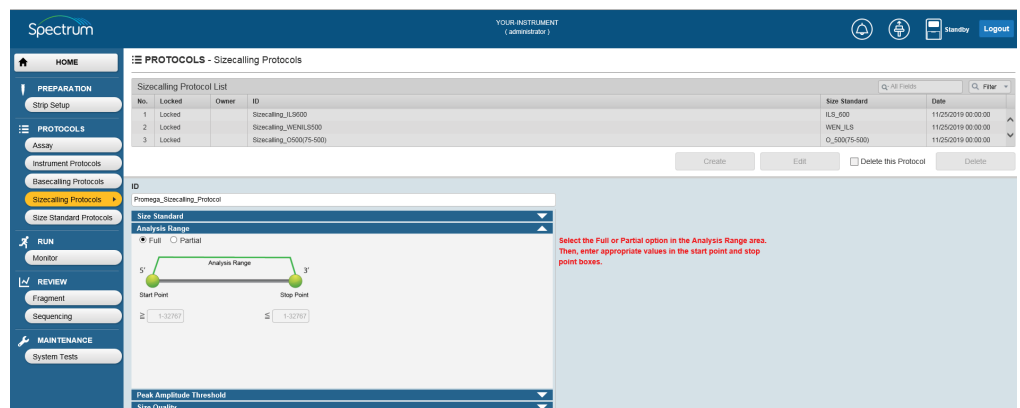
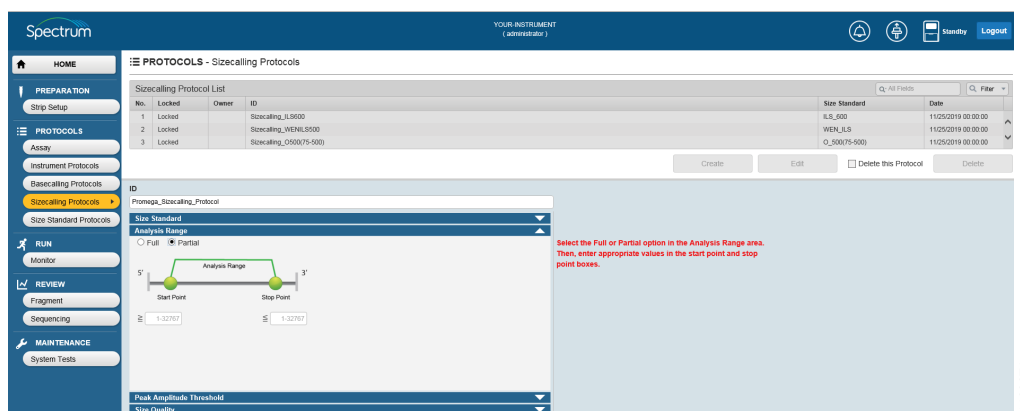

Figure 51. Full 'Analysis Range' pull-down screen.
Figure 52. Partial 'Analysis Range' pull-down screen.
- Select the **Analysis Range** pull-down menu. The default radio button setting is **Full** (Figure 51). If desired, select the **Partial** radio button to enable the start and stop point fields of the analysis range (Figure 52). Enter the desired scan number/data point values in these fields.